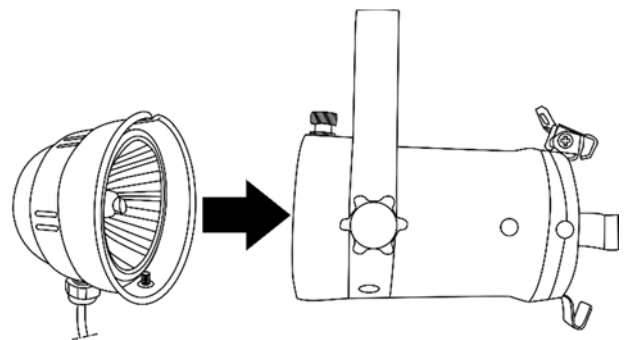

Fig. 06
- 05) Replace the rear cover of the lamp (fig. 06). Make sure that the screw at the bottom of the rear cover fits in the hole at the bottom of the front cover.